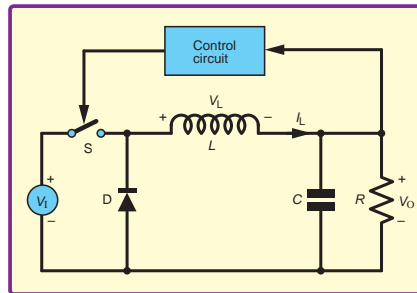

Fig.2. Basic switching converter schematic (buck converter)
We will consider a switching regulator DC-DC converter that uses pulse-width modulation to control the output voltage. A simplified example circuit is shown in Fig.2 – this is a step-down buck converter ($V_I < V_O$). When the switch (S) closes, current flows from the source to the inductor and through the load. The inductor acts as an energy store (stored in its magnetic field). When the switch is open, the stored energy is released into the load, with the forward-biased diode providing the complete circuit for current to flow. When the switch is closed and the input voltage is connected across the diode, the diode is reverse biased and does not conduct.
When the switch is open the voltage across the inductor is also constant and is equal to the load voltage, but opposite in sign (see the voltage orientations denoted on Fig.2). Under these conditions the inductor is outputting energy into the load and its current is ramping down at a constant rate – a negative slope of di/dt in the above equation corresponds with the negative voltage. Note that the inductor current flows in the same direction irrespective of switch position, but the relative polarity of the inductor and load voltage change by virtue of the switching arrangement. The switched nature of the circuit means that the output voltage has a tendency to vary (ripple) with the switching cycle, but this is smoothed by the capacitor (C).